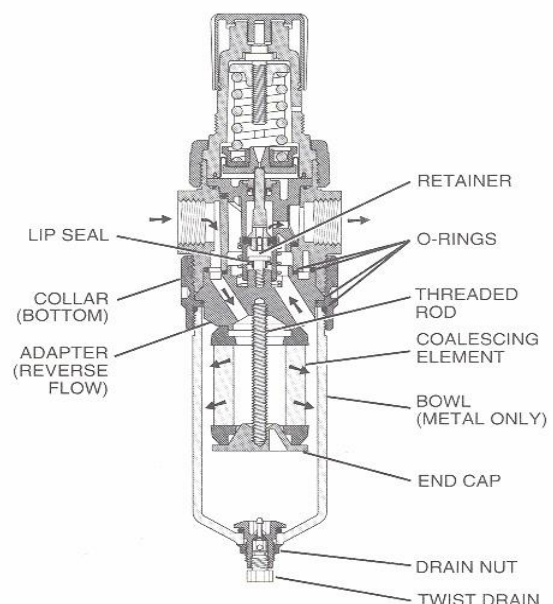

Figure 2: 12E
B. 12E Units - (Refer to Figure 2.)